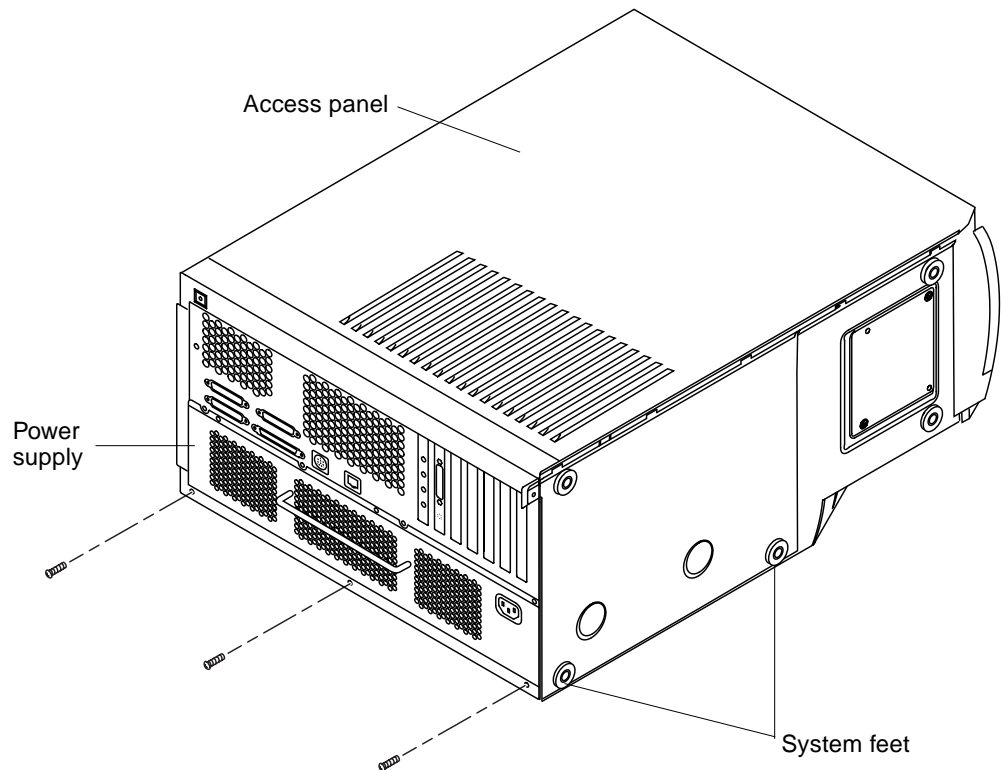

FIGURE 8 Removing the Power Supply Screws
2. Remove the three screws from the base of the power supply at the back of the system. Set the screws aside (FIGURE 8).